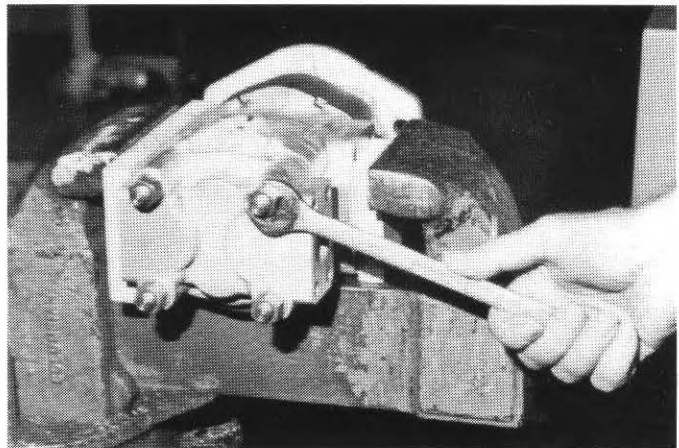

FIG. 3
4. If your pump has a mounting adapter, remove Allen head capscrews (25), washers (24), and mounting adapter (23). If it also has a flange adapter (26) behind it, remove that also. If your pump has no adapter but only a standard one-piece flange, disregard this step and continue with step five.
5. Use a 3/4" wrench to loosen and remove nuts (22) and washers (21). (Fig. 3)